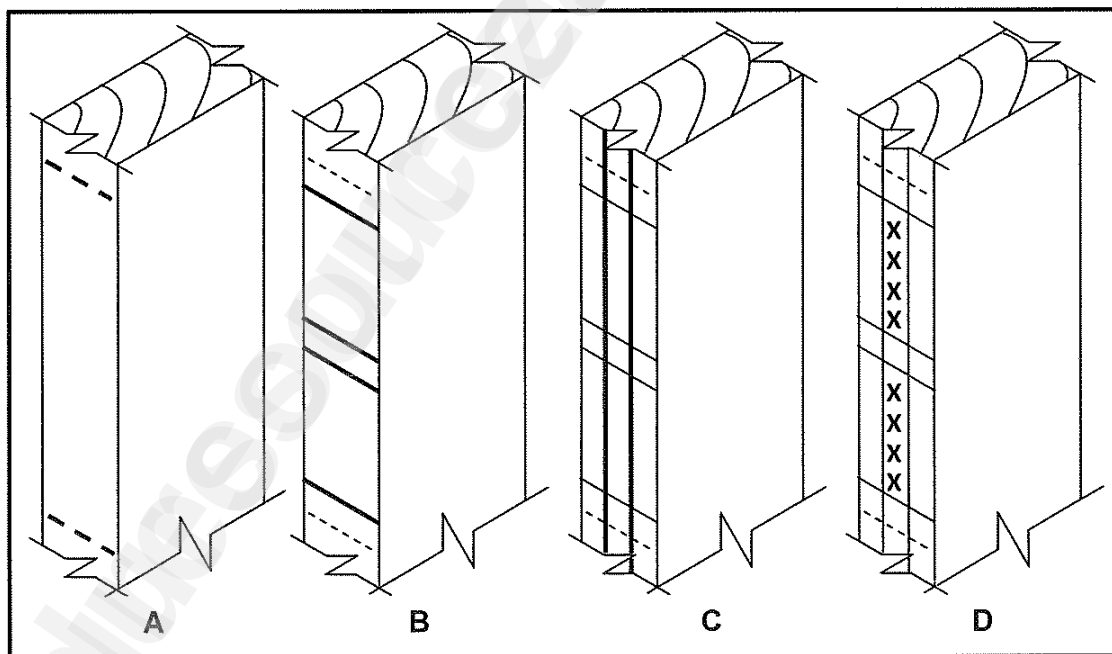

FIGURE 6.3
6.3 FIGURE 6.3 shows the steps of marking out of the mortises of a double stub mortise and tenon joint for the lock rail of a three-panel door.